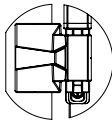
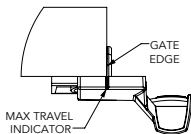
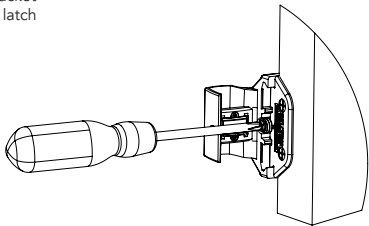

Figure 6
Figure 10
Figure 11
1. Using a screwdriver, adjust the keeper assembly (Figure 11) to align with the latch body (Figure 6). Maximum adjustment has been reached when the max travel indicator mark on the keeper assembly reaches the gate edge (Figure 10).
2. To adjust the horizontal alignment, use a screwdriver to turn the adjustment screw in the keeper assembly (Figure 11).
**NOTE:** Do not extend the keeper to the point where the max travel indicator passes the gate edge (Figure 10).
3. To adjust the vertical alignment, use a different vertical adjustment hole in the lower bracket for the #8 flat head screw to secure the latch body in place (Figure 11).